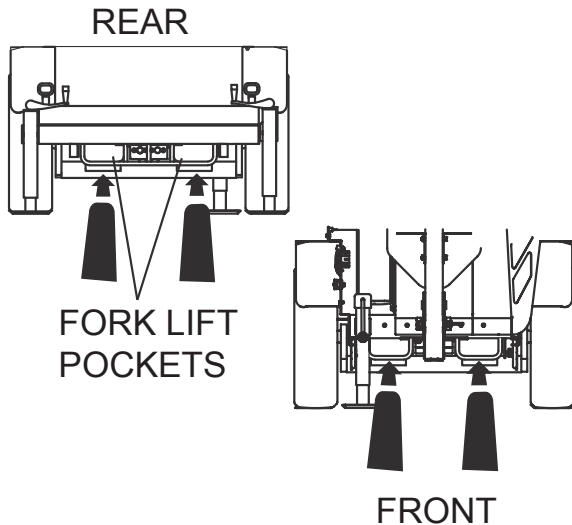

Figure 19. Inserting Forklift Forks (Front/Rear)
2. Insert the forklift forks into the fork pockets of the light tower either on the front or rear (Figure 19). Make sure forks are inserted all the way in to the end of the pockets.